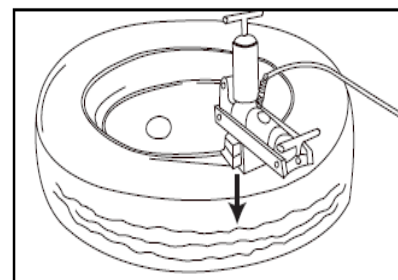

Figure 7
5. Continue to apply hydraulic pressure until the bead breaking ram extends about 1/2 - 3/4 inch [13-19 mm] from the bead breaker. (See Fig. 7.)